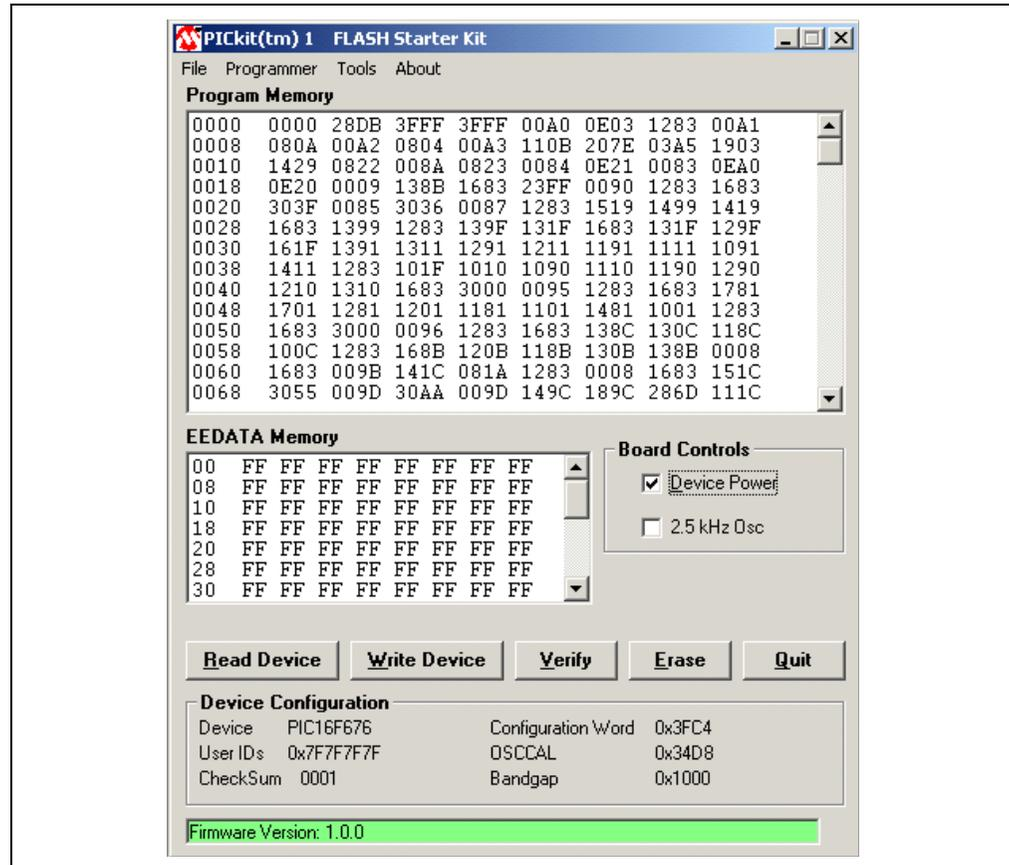

FIGURE 2-4: PICkit™ 1 Flash Starter Kit GUI Window on the PC.
3. Once the PICkit 1 Flash Starter Kit is started, the main window will be displayed on the PC, as indicated in Figure 2-4.
4. Toggle device power off by unchecking the **Device Power** box under **Board Controls** in the PICkit 1 Flash Starter Kit window (Figure 2-4). The **BUSY** LED on the PICkit 1 Flash Starter Kit board will turn off once the device power is turned off.